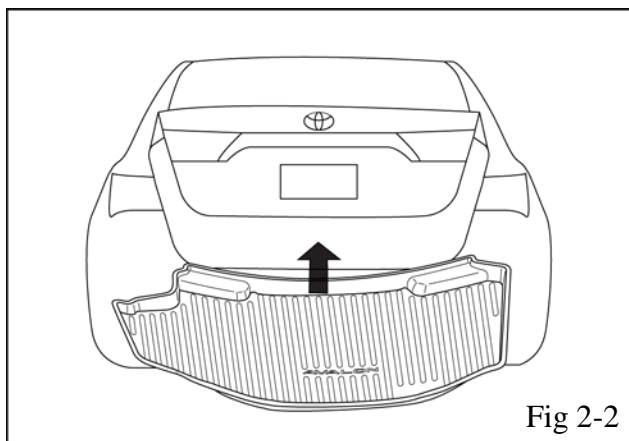

Fig 2-2
-  (b) Grasp the tray by the rear and fold in the sides sufficiently to slide it into the rear compartment. After installing the tray, ensure all of the edges are pushed down against the floor. (Fig 2-2)